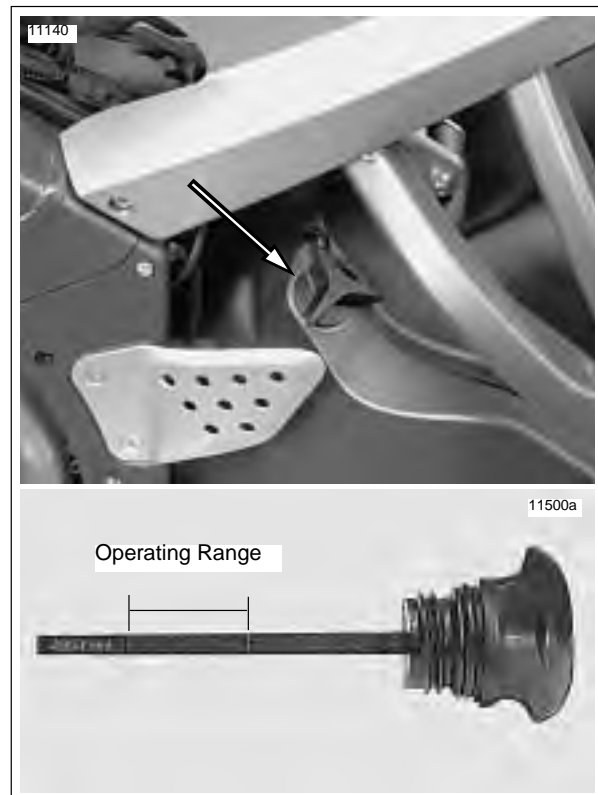

Figure 1-3. Dipstick Location/Engine Oil Level
2. See Figure 1-3. Unscrew and remove dipstick from oil tank/swingarm filler hole. Wipe dipstick clean.
4. See Figure 1-3. Unscrew and remove dipstick and read oil level.